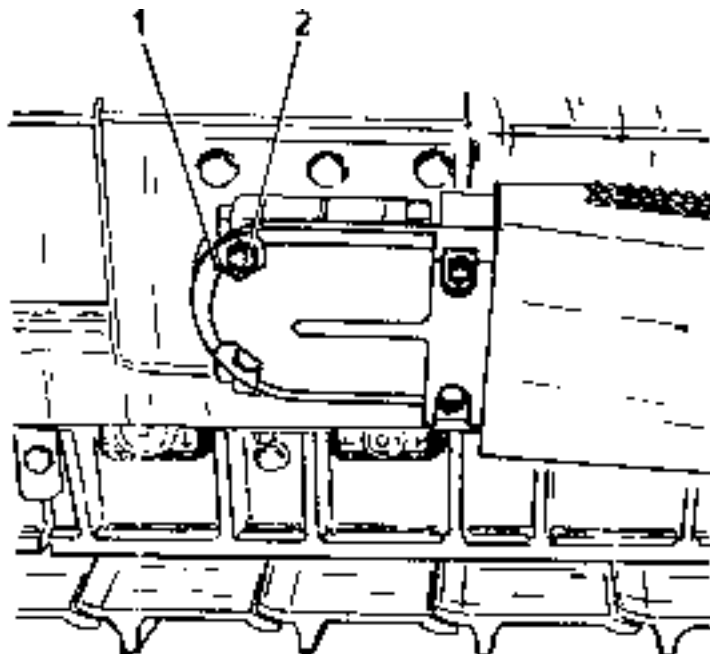

Fig. 5.36. Blade Tilt Hoses Connection Cover and Trunnion Bearing Cap
2. Remove bolts (2, Fig. 5.36) and tilt hoses connection cover (1).
4. Remove two trunnion bearing cap bolts (3) and remove caps (2) and shims (7) of the R.H. and L.H. side trunnion (1) located at the back of the push arms (6).